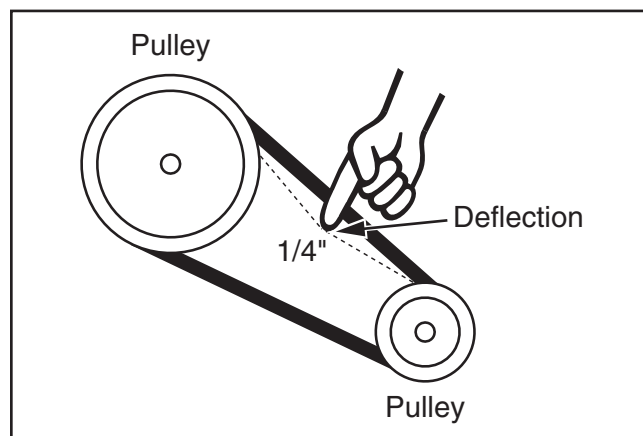

Figure 106. End trimmer belt deflection.
4. Apply moderate pressure to belt to see how much it deflects (see **Figure 106**).